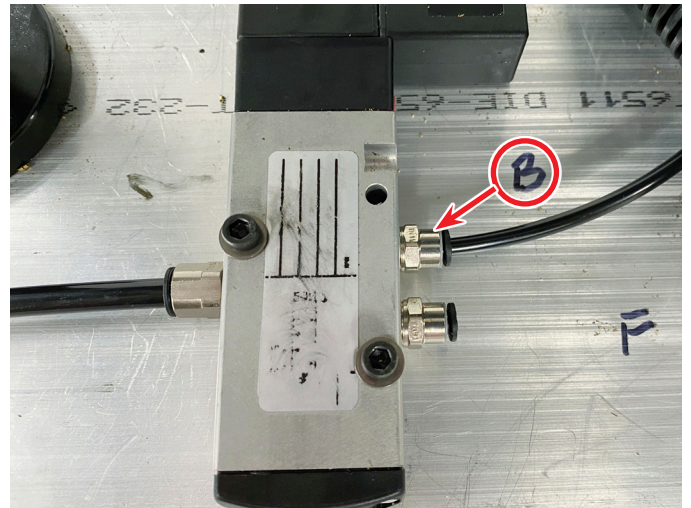

FIGURE 34
- C. Connect the first 5/32" air line from the outgoing control valve marked with "B" in the picture to the rear flow control on the air cylinder (see Figures 34 and 35).